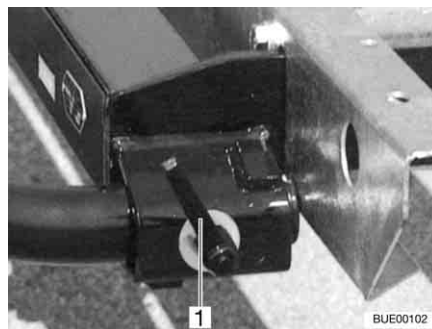

Fig. 7 Quick closure
- Insert the supports on the left and on the right into the holders on the frame and secure them with a quick closure (Fig. 7,1).
- Open the quick closure (Fig. 7,1) and pull the support from the holders on the frame.